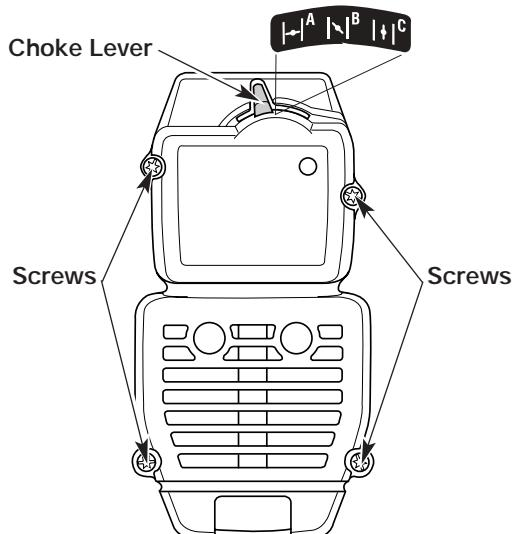

Fig. 21
NOTE: The choke lever must be in Position B (Fig. 21) to remove the air filter/muffler cover.
2. Remove the four (4) screws securing the air filter/muffler cover (Fig. 21). Use a flat blade or T-20 Torx bit screwdriver. Do not over tighten. Do not force.
NOTE: The choke lever must be in Position B (Fig. 21) to install the air filter/muffler cover.
2. Insert the four (4) screws into the holes in the air filter/muffler cover (Fig. 21) and tighten. Use a flat blade or T-20 Torx bit screwdriver. Do not over tighten. Do not force.